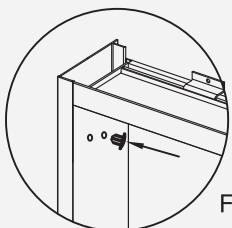

Fig 18
3. Fill the remaining holes with hole[®] plugs (Fig 18). Fill the rest of the shelf clip holes with[®] decorative covers (Fig 19).